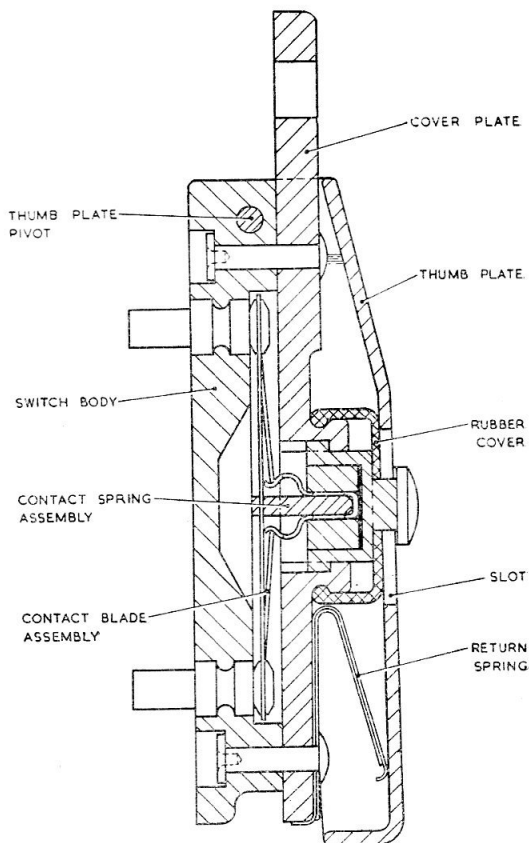

Fig. 1. Typical auto-pilot cut-out switch
2. The switch (*fig. 1*) is of moulded construction and comprises a contact body, cover plate and an operating thumb plate. The moulded cover plate is riveted to the contact body by two rivets, one of which also secures the leafed return spring. The thumb plate fits over the front of the switch and is pivoted on an axis-pin which passes through the contact body.